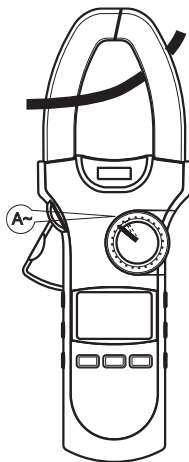

Figure 9
- When measuring DC current, if the reading is positive, then the current direction is from up to down (see figure 9: the front case face up while the bottom case face down)
### G. AC Current Measurement (see figure 9)